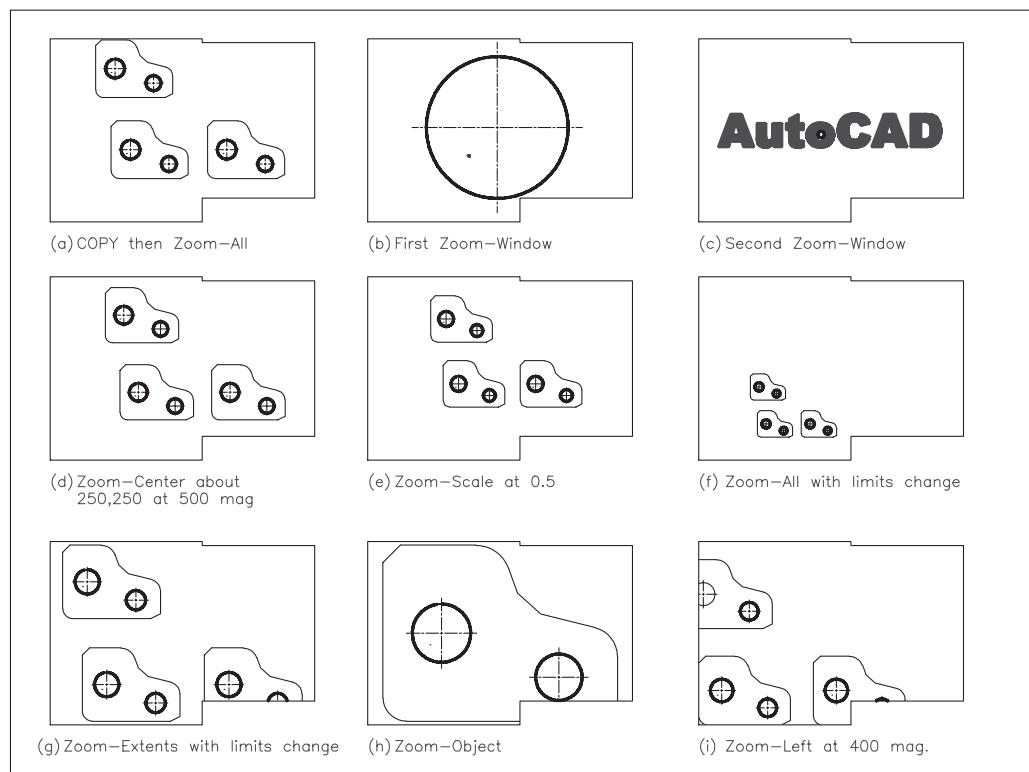

Figure 17.1 Using the various zoom options with WORKDRG.
- b) refer to Figure 17.1.
- 3 The two components are displayed as Figure 17.1(a).
respond **window the original left circle** – Figure 17.1(b).
- 5 The text item and circle will now be displayed – Figure 17.1(c).
- 2 Menu bar with **View-Zoom-Previous** – restores Figure 17.1(b).
- 3 At command line enter **ZOOM <R>** then **P <R>** – restores Figure 17.1(a).
- 3 The complete drawing is centred on the drawing screen about the entered point – Figure 17.1(d).
- 6 Now Zoom-Previous four times to restore Figure 17.1(a).
- 4 The drawing is displayed centred and scaled – Figure 17.1(e).
- 7 Zoom-Previous three times to restore Figure 17.1(a).
- 3 Menu bar with **View-Zoom-All** – Figure 17.1(f).
- 4 Select the **ZOOM EXTENTS icon** – Figure 17.1(g).
- 6 Zoom-All to restore Figure 17.1(a).
respond **window the original component then right-click** – Figure 17.1(h).
- 3 Zoom-Previous to restore Figure 17.1(a).
- 2 Menu bar with **View-Zoom-All** to display Figure 17.1(a).
- 4 Complete drawing is moved to left of drawing screen and displayed at the entered magnification – Figure 17.1(i).
- 5 Zoom-Previous to restore Figure 17.1(a).
- 3 Restore the original Figure 17.1(a) – zoom all?